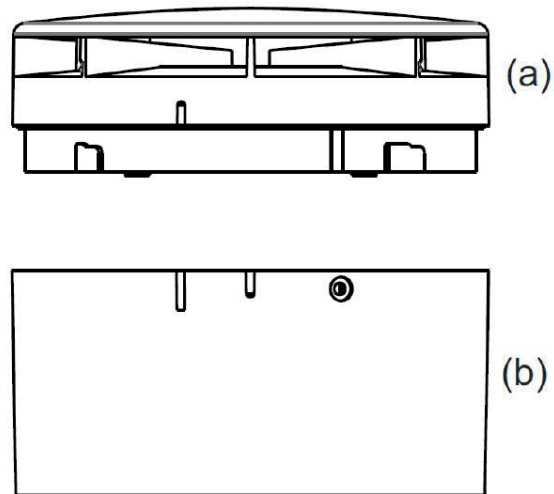

FIGURE 2
- > Perform the connection between the connector in the upper casing (Figure 2(a)) with the connector indicated on Page 2.
- > Place the upper casing (Figure 2(a)) according to the notches to be seen in the figure on the lower casing (Figure 2(b)).